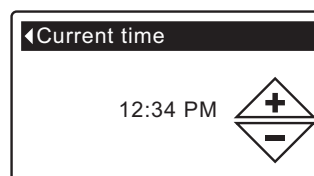

FIG. 42
5. Press the SELECT (O) button to display the Current time screen (See Figure 42).